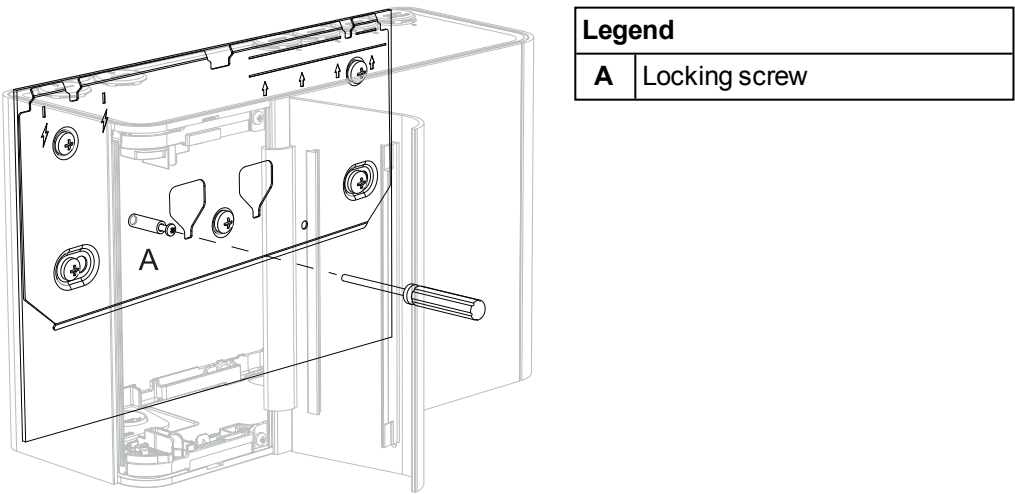

Figure 4-22: Locking Screw
7. Open the door on the front of the detector (Figure 4-22). Refer to Section 7.2 on page 80 for further information on how to open the door.
8. Insert and tighten the locking screw (A). This secures the detector to the mounting bracket.